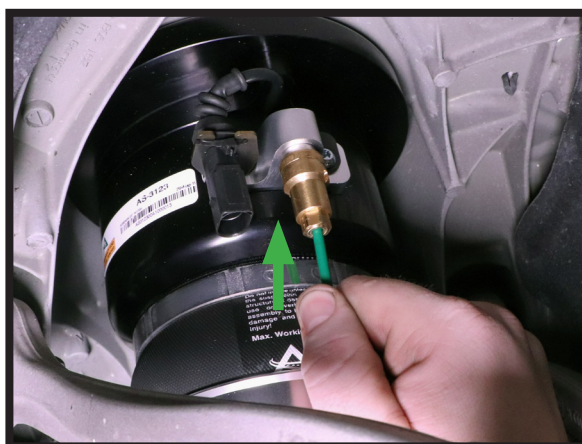

FIGURE 36
10. INSERT AIR LINE INTO NEW VOSS FITTING. PRESS AIR LINE IN FIRMLY UNTIL IT IS SEATED. (FIGURE 36)